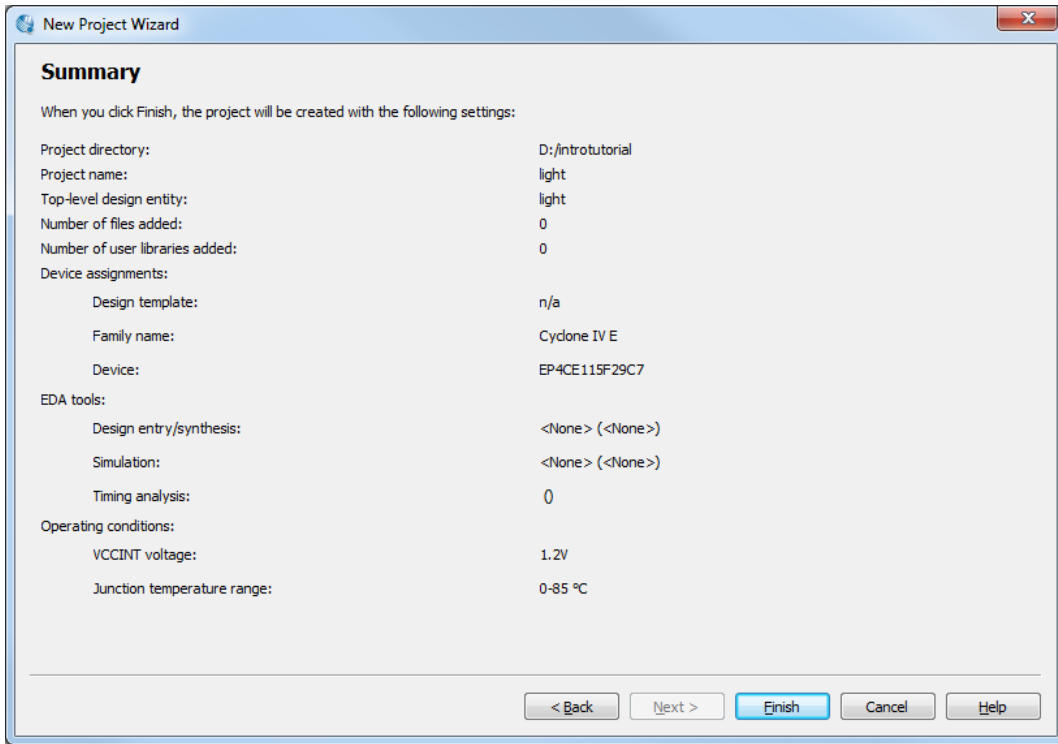
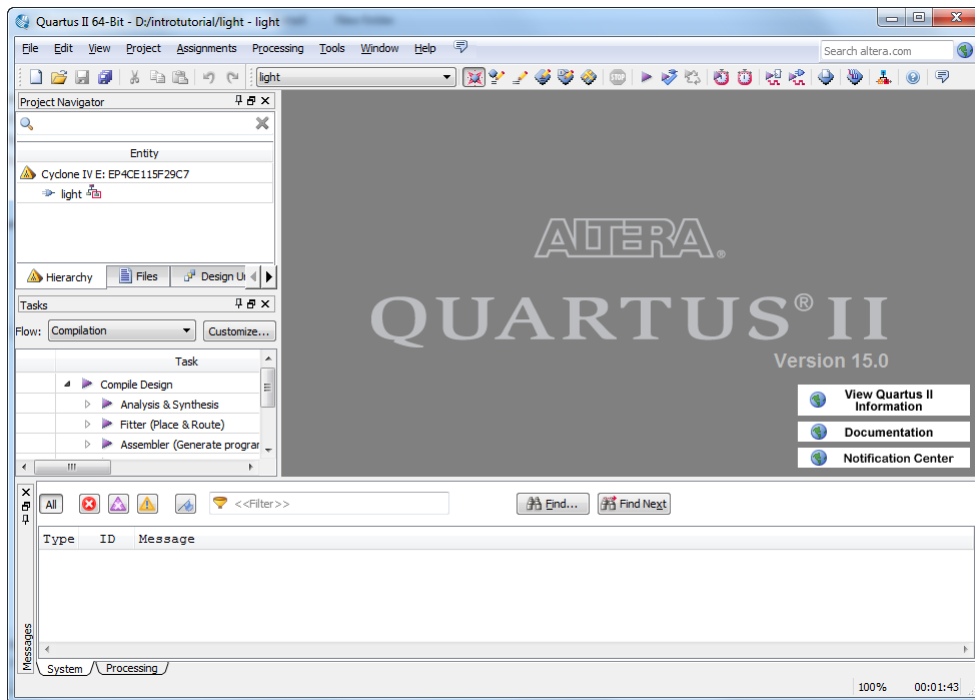

Figure 10. Summary of project settings.
Figure 11. The Quartus II display for a created project.
7. A summary of the chosen settings appears in the screen shown in Figure 10. Press Finish, which returns to the main Quartus II window, but with *light* specified as the new project, in the display title bar, as indicated in Figure 11.